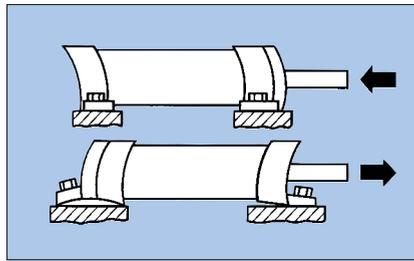
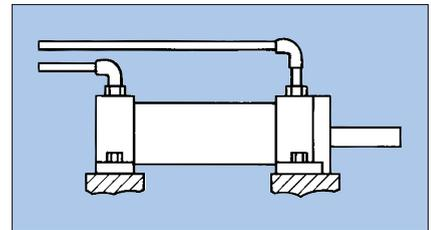

Fig. 15. Cylinders with non-centerline mountings tend to sway under load.
Fig. 16. Rigid tubing connected to cylinder heads will be subject to forces and motion. Cylinders plumbed this way will leak.
- Cylinders with non-centerline-type mountings, Figure 15, tend to change length and sway under load and temperature change. Any rigid tubing connected to a cylinder cap port will be subject to that resulting force and motion, Figure 16. If a cylinder is rigidly plumbed, the question is not whether it will leak, but when.